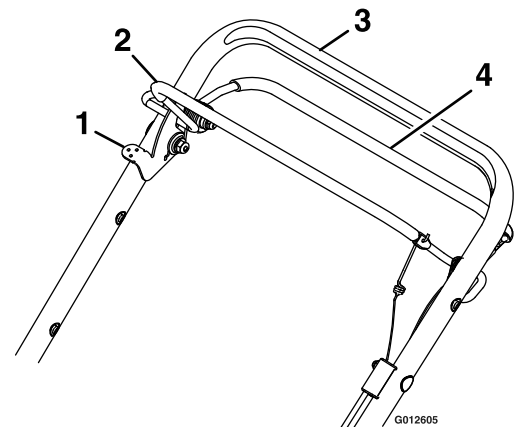

Figure 4
Located on the upper handle as shown in Figure 4.
The blade control lock lever is located on the right side of the handle next to the Blade Control Bail as shown in Figure 4.
2. Squeeze the drive bail against the handle (see Figure 4).